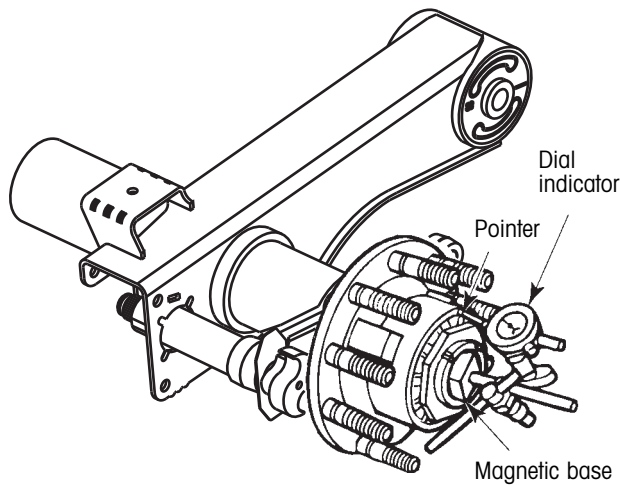

Figure 5. Attaching the dial indicator to check end play
2. Adjust the dial indicator so that its pointer touches the hub (figure 5).